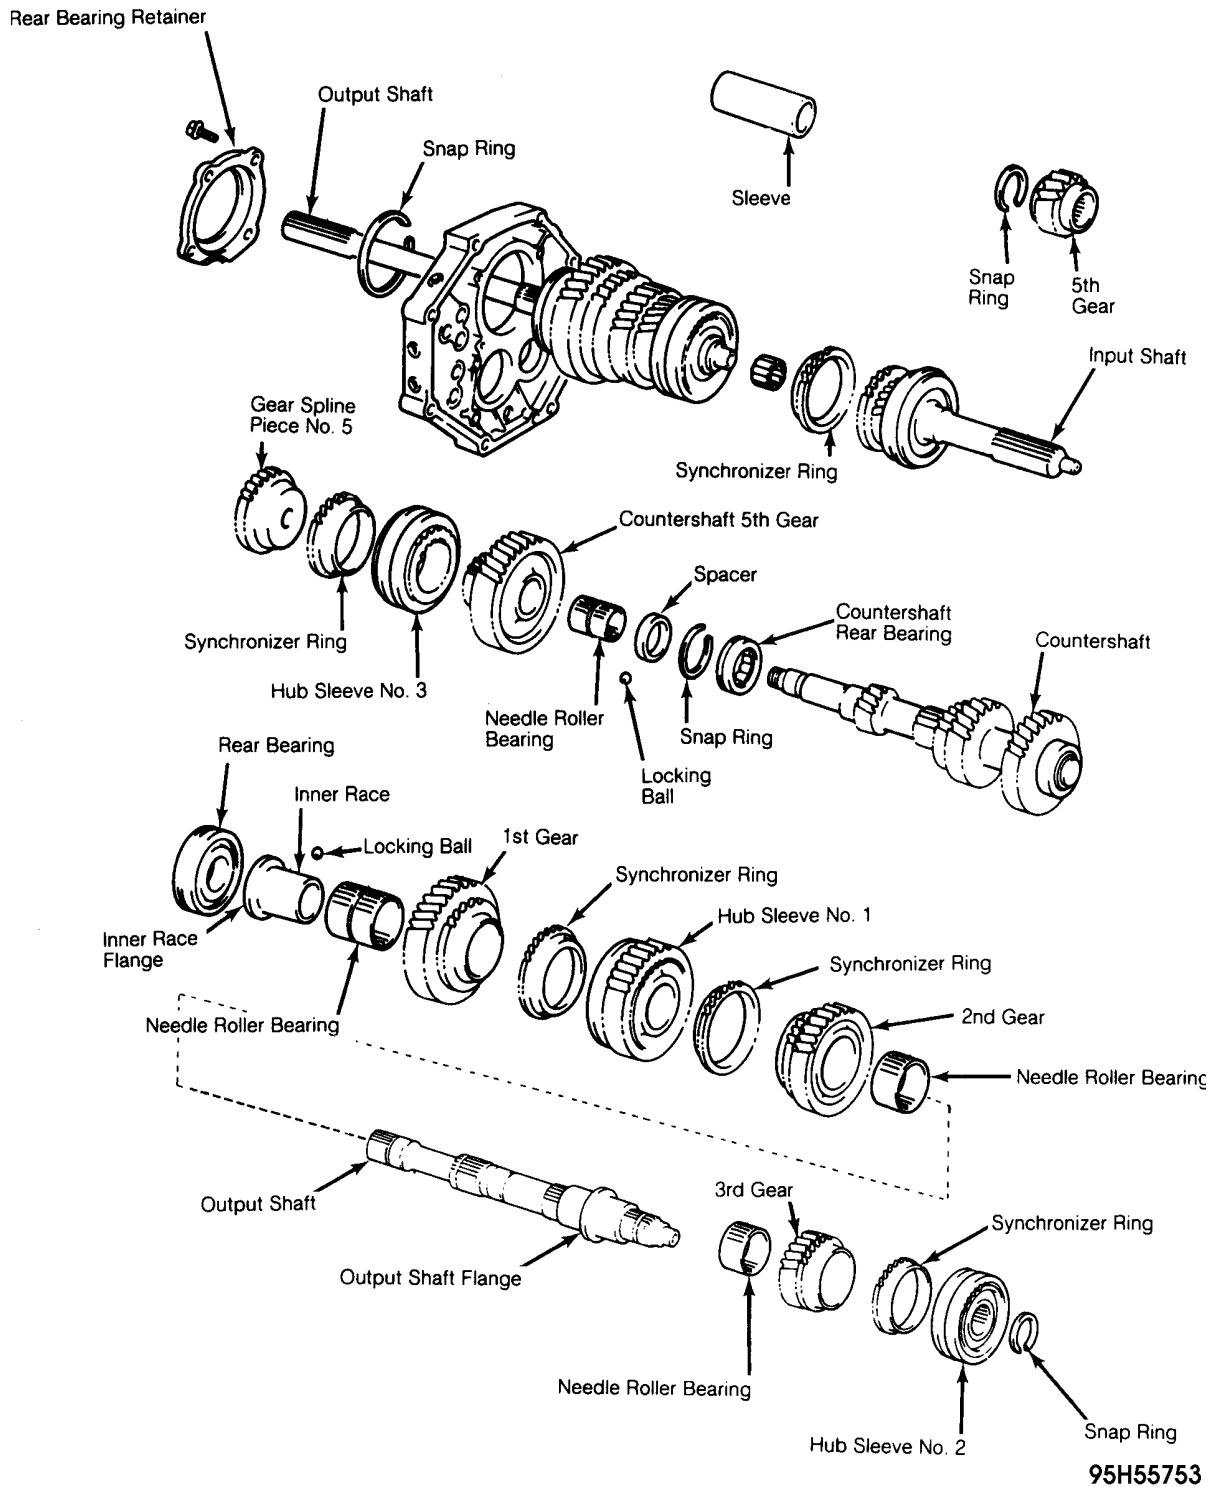
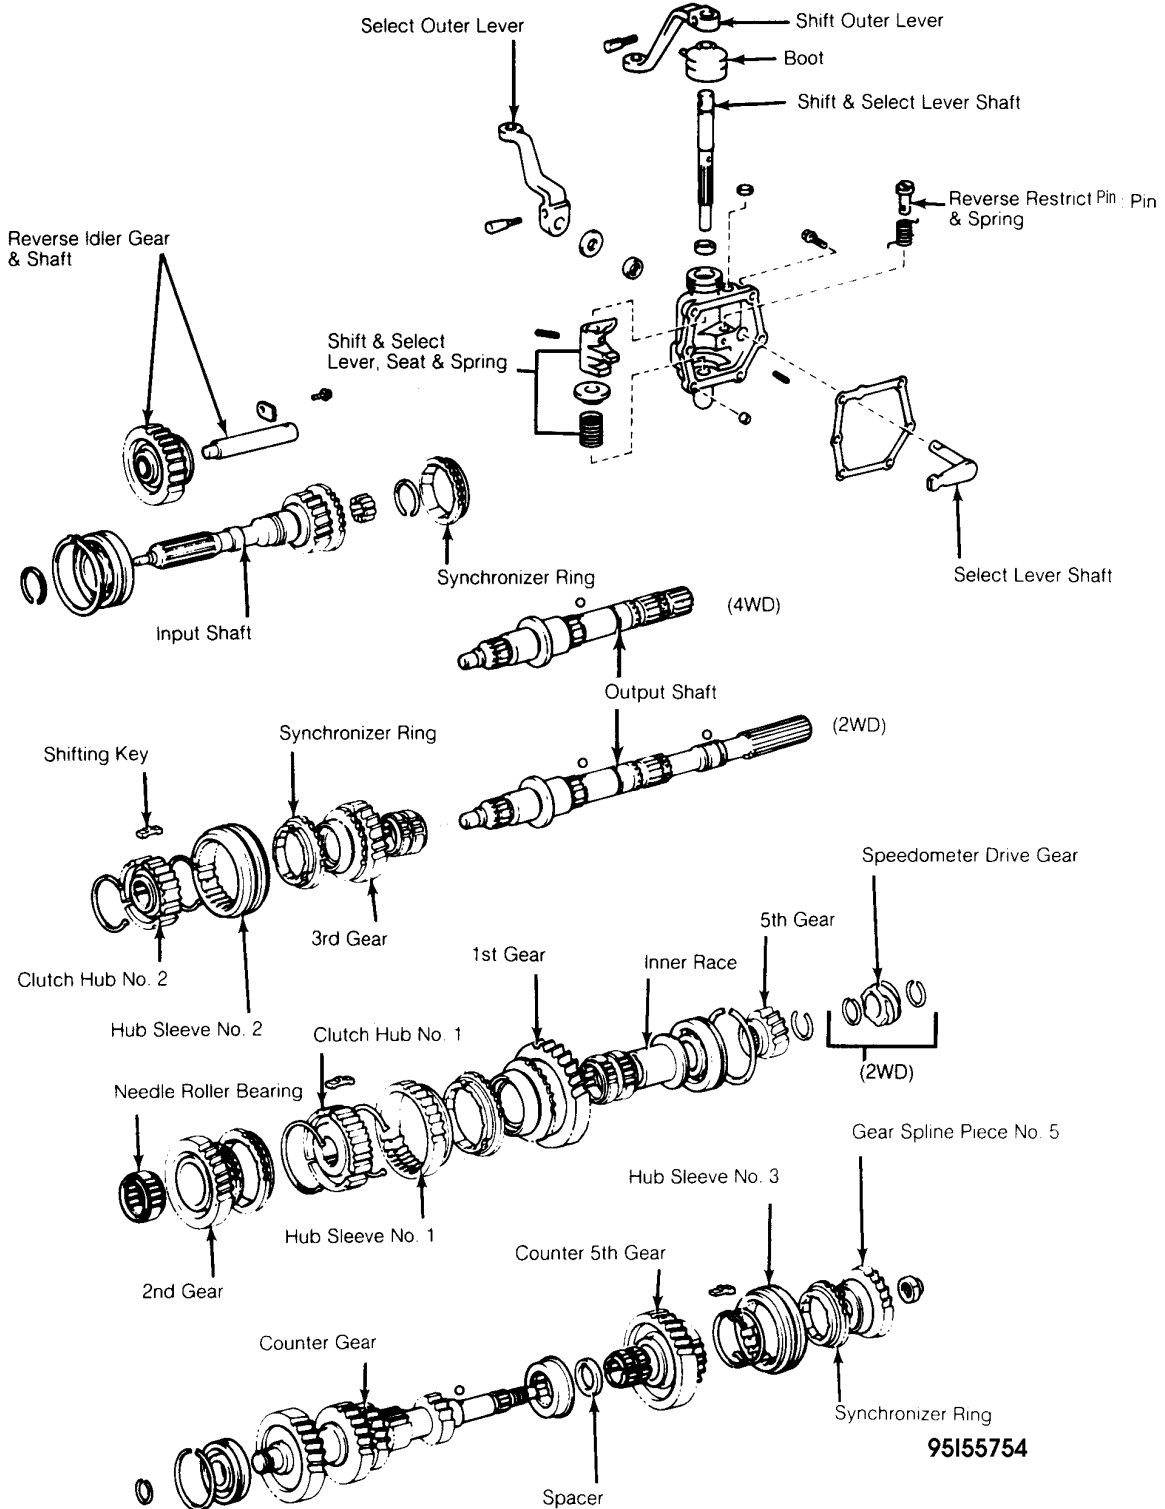

Fig. 6: Exploded View of Toyota G52 Transmission Gears
Fig. 7: Exploded View of Toyota G53 Transmission Gears
3. Remove snap ring and press hub sleeve No. 2, synchro ring and 3rd gear off output shaft. See Fig. 6 or Fig. 7 . Remove needle roller bearing.